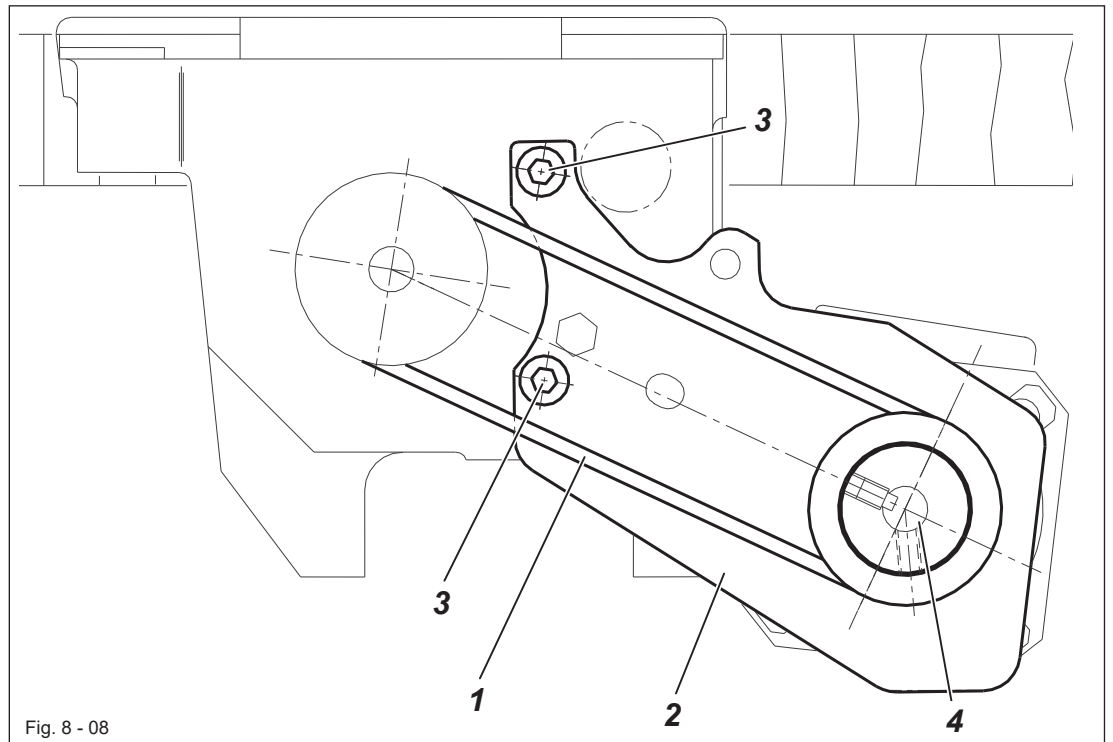

Fig. 8 - 08
- Lay on the toothed belt 1 while making sure that both the motor shaft 4 (*Fig. 8 - 08*) and the machine are not twisted.